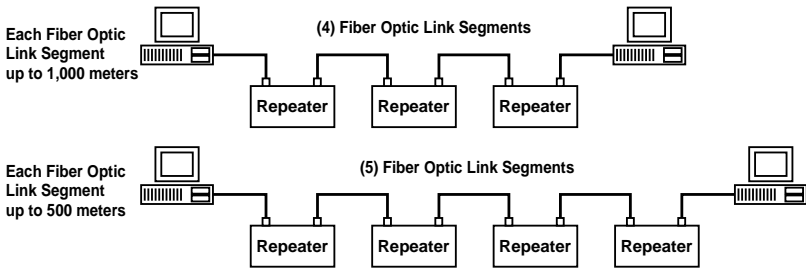

Figure 3-29. Fiberoptic Link Segment Distance Limitation.
2. The transmission path between any two DTEs may consist of a maximum of five segments and four repeaters (**Figure 3-29**).